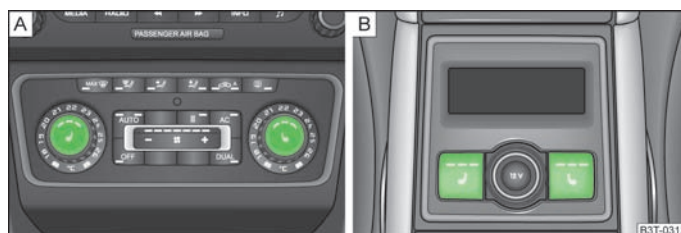

Fig. 57 Regulator for heating the front seats/rear seats
- The seat heaters on the driver's and front passenger's seat can be switched on and regulated by pressing the button  or  » Fig. 57 - .
- The heaters on the left or right rear seats can be switched on and regulated by pressing the regulator  or  » Fig. 57 - .